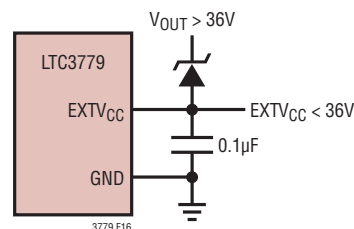

Figure 16. Using a Zener Diode Between V_{OUT} and EXTV_{CC}
4. EXTV_{CC} connected to the regulator output through an external Zener diode. If the output voltage is greater than 36V, a Zener diode can be used to drop the necessary voltage between V_{OUT} and EXTV_{CC} such that EXTV_{CC} remains below 36V (Figure 16). In this configuration, a bypass capacitor on EXTV_{CC} of at least 0.1μF is recommended. An optional resistor between EXTV_{CC} and GND can be inserted to ensure adequate bias current through the Zener diode.